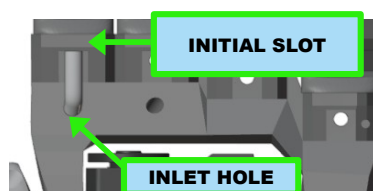

Figure 5.21: Inserting the tube into the initial slot (front view)
2. Take the remaining part (on the rear of the skeleton) and insert it into the final slot shown in figure 5.21.